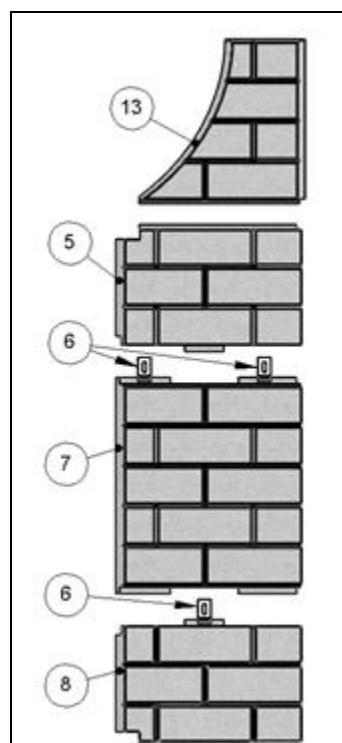

Figure 5 Left Side Refractory Bricks
13. Install the back middle refractory brick (11) with the grout joint facing up.
14. Install the upper back refractory brick (12) on top. Again, make sure to align the brick pattern. Hold it with one hand.
15. On the right side, install the middle upper brick (8), followed by the upper brick (4). When installing the upper refractory brick (4), you will have to tilt the throat refractory brick (1) upwards to be able to slide the upper right refractory brick into place.
16. Once the upper brick (4) is in place, slide the throat refractory brick as far right as it will go and let it rest against the upper brick.
While referring to Figure 5, install the left side refractory bricks in the same manner as the right side was installed. When finished, ensure that the throat refractory brick (1) is centered.